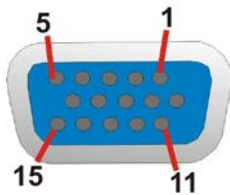

Figure 3-30: VGA Connector
- CN Pinouts:** See **Figure 3-30** and **Table 3-32**